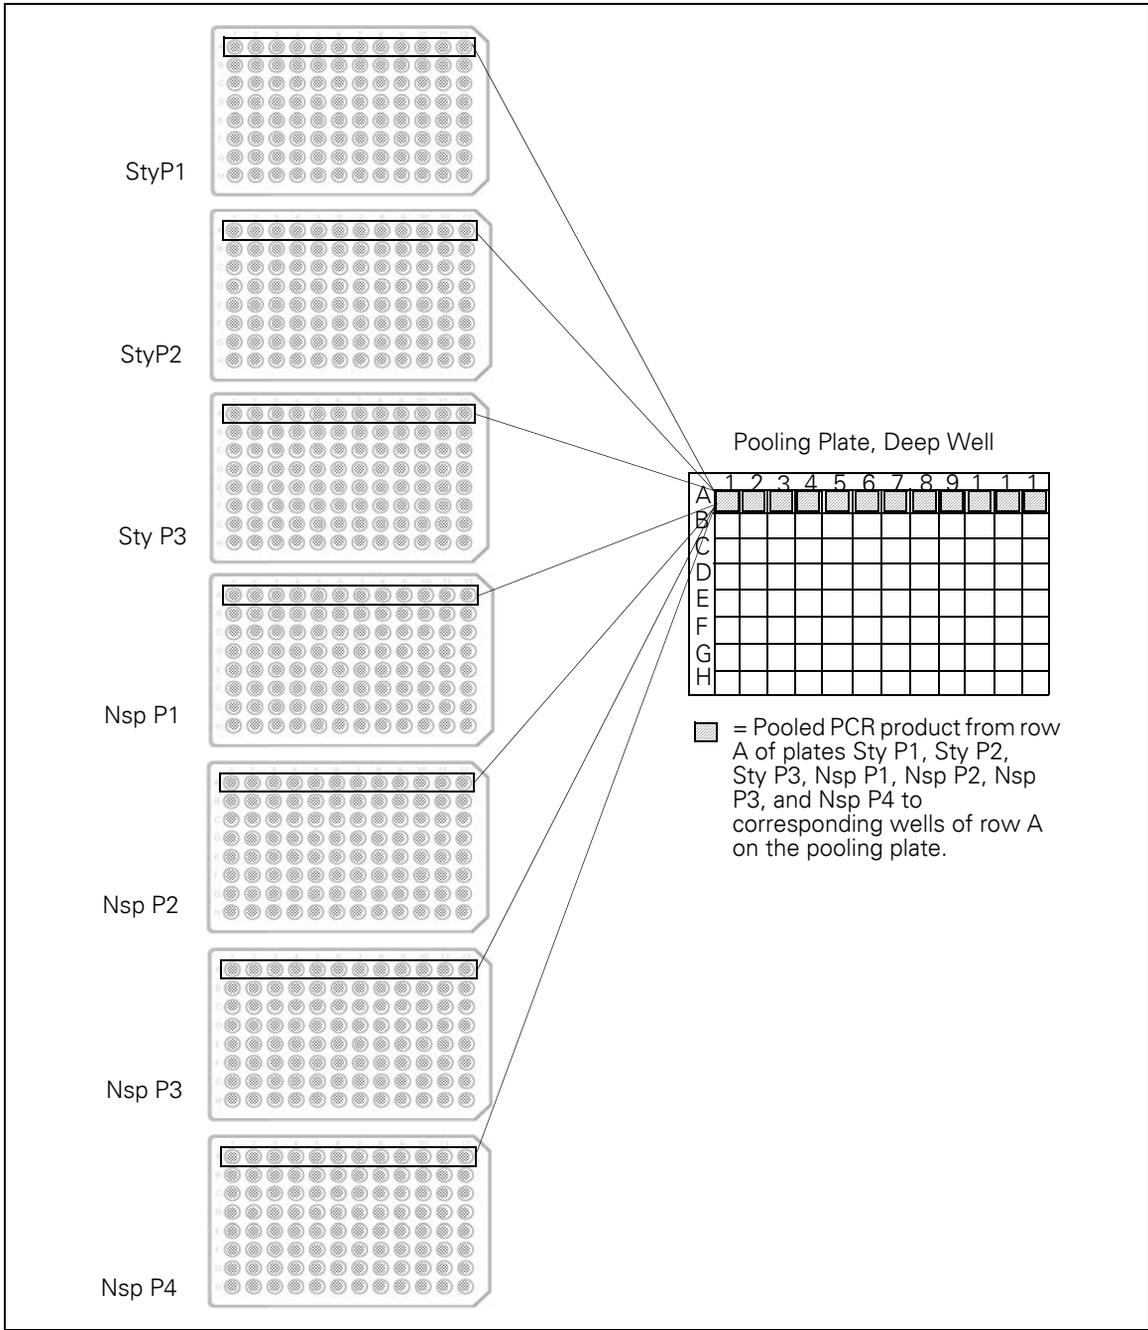

Figure 5.7 Pooling Sty and Nsp PCR Products on a Deep Well Pooling Plate
- B.** Transfer the reactions from row A of each PCR plate to the corresponding wells of row A on the pooling plate (Table 5.37 below and Figure 5.7 on page 202).